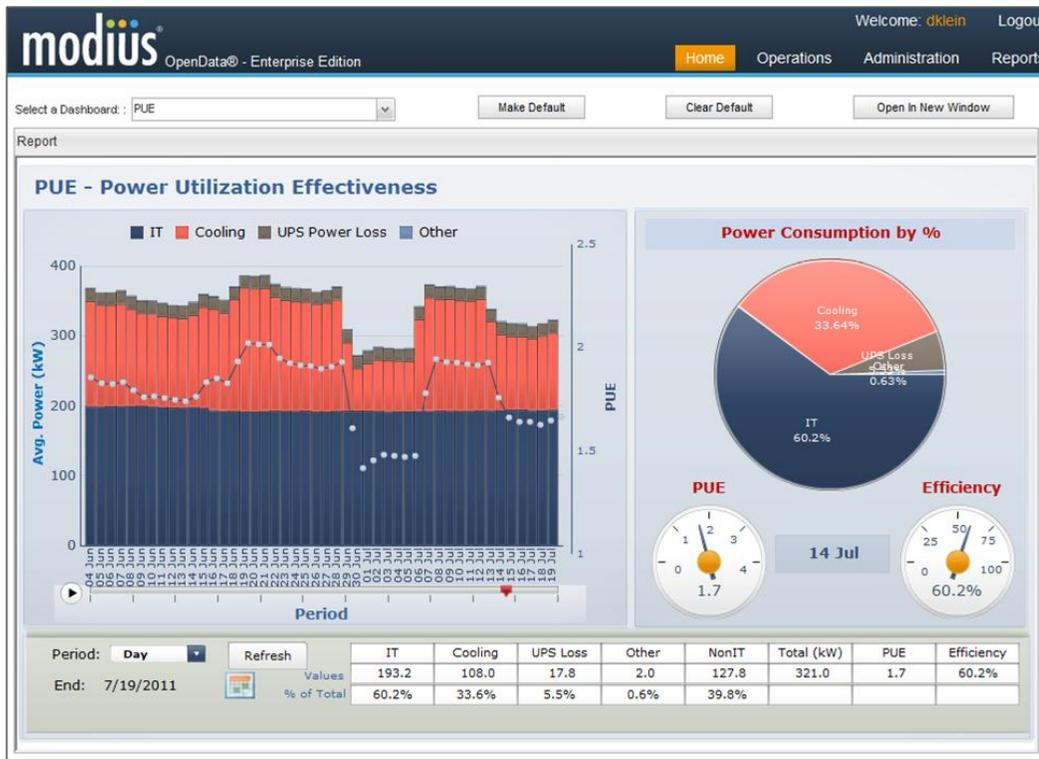

Figure 1: Complete visibility and analysis across all devices—from racks to CRACs. Measure all data points from all equipment.
1. **OpenData provides the operational intelligence, enabled by the reach and granularity of data capture, accuracy of the analytics, and the extensibility of the feature set, to utilize the latest data center metrics.** Modius understands that data center managers don’t know what type of analysis they will need to solve a future problem. Thus, OpenData provides all data points from all devices, enabling data center managers to run any calculation and create new dashboards and reports whenever needed. This broad and granular data capture enables managers to confidently assess their XUE1, available redundant capacity, and any other data center metric required for analysis. Moreover, because all of the data points provided can be computed at will, the latest data center metrics can be implemented at any time. Figure 1, below, is one of several dashboards that illustrate how OpenData can display Power Usage Effectiveness (PUE).